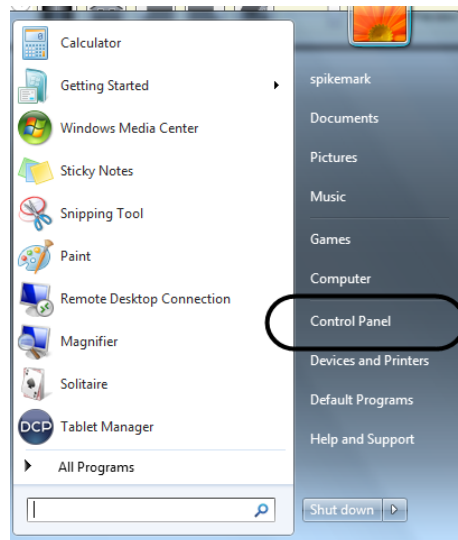

Figure 19
1. From the **Start Menu**, select **Control Panel** (Figure 19).